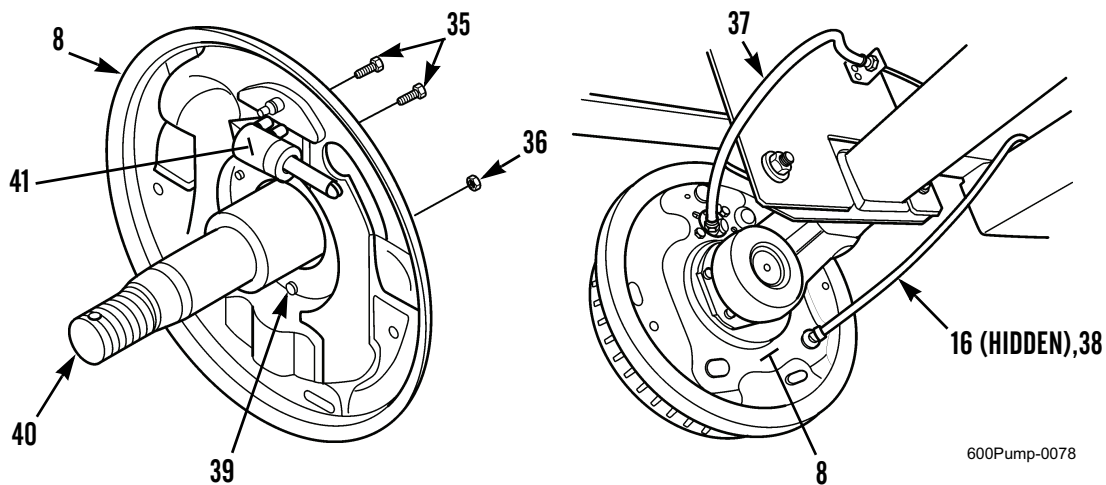

Figure 4. Wheel Cylinder and Backing Plate.
- b. Remove hand brake cable sheath (Figure 4, Item 38) from backing plate (Figure 4, Item 8).
- c. Remove two capscrews (Figure 4, Item 35) with integral lockwashers securing wheel cylinder (Figure 4, Item 41) to backing plate (Figure 4, Item 8). Pull wheel cylinder loose from backing plate and disconnect flex brake line (Figure 4, Item 37) from wheel cylinder. Install temporary plug in flex brake line. Remove wheel cylinder. Discard capscrews with integral lockwashers.
- d. Remove five nuts (Figure 4, Item 36) from mounting studs (Figure 4, Item 39) and remove backing plate (Figure 4, Item 8) from axle spindle (Figure 4, Item 40).